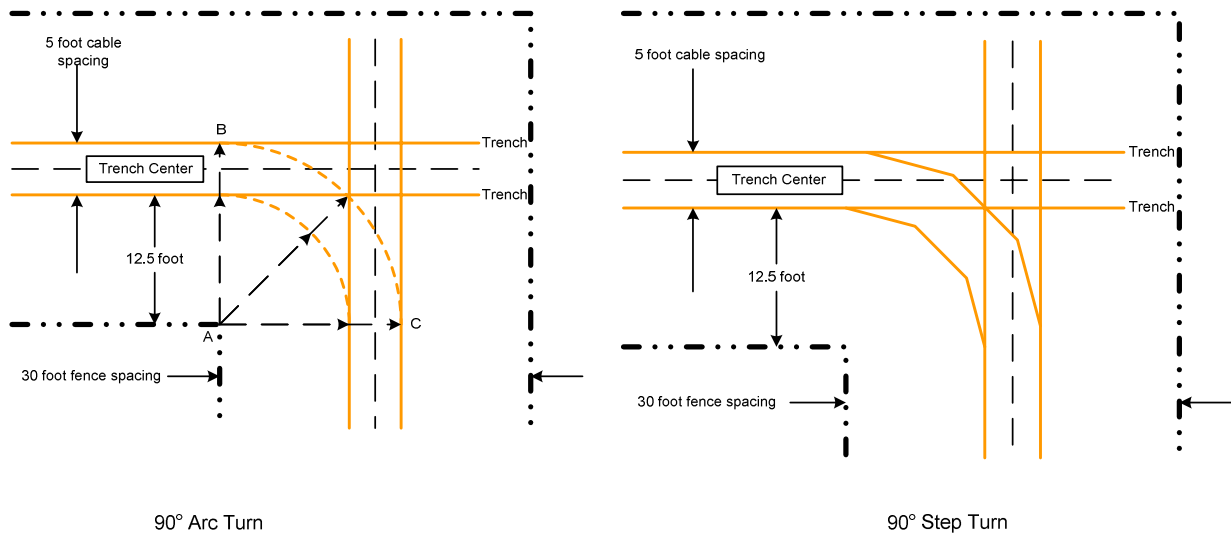

Figure 6.16 - Turning Sensor Cable Around 90° Corners between Double Fences
It is always preferable to make gentle continuous turns when changing direction. This provides better control over the path of the detection field. Sharp turns will develop large lobes in the corner that will extend beyond the fence line. This may be into unwanted areas that will produce nuisance alarms. Figure 6.16 shows how to do the arc turn and step turn in a 90° corner. For the arc turn, using the corner post (A) as the marker, tie a string to it and move to the first trench (B). Mark the ground as it is moved to the other trench (C). Do this for both trenches. This will provide the arc keeping the correct distance between cables and appropriate distances from the fence. If no fence is there, a stake at that position (A) must be used. A radius turn should be no less than 5 feet (1.5m).